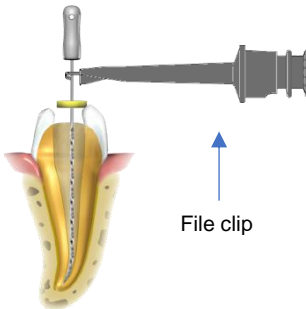
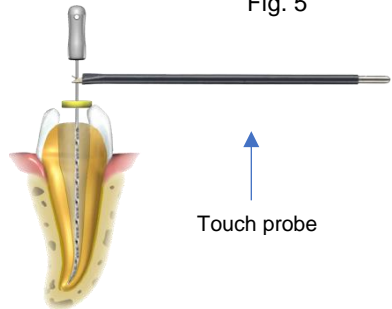

Fig. 6
Fig. 7
3. Gently insert the file into the canal and connect the file clip to the metal shaft of the file – see Fig 6. Alternatively, use the touch probe to provide electrical contact with the endodontic file – see Fig. 7.